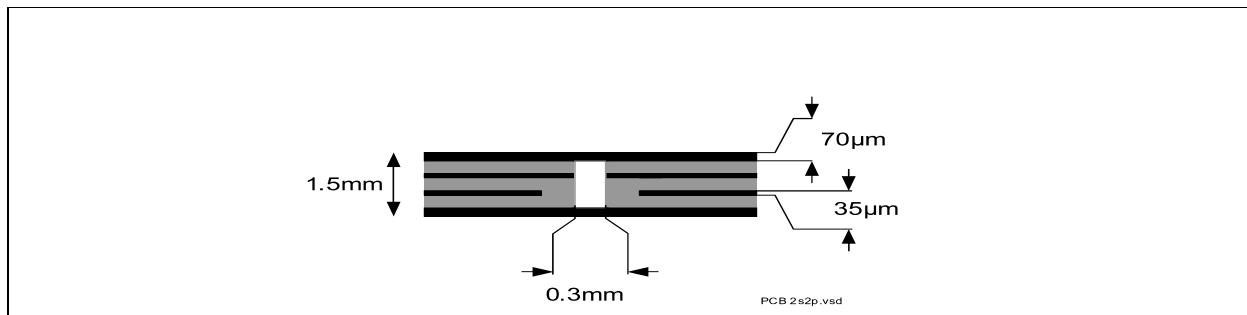

Figure 4 2s2p PCB Cross Section
2) Specified R_{thja} value is according to JEDEC JESD51-2,-5,-7 at natural convection on FR4 2s2p board; The product (chip + package) was simulated on a 76.4 x 114.3 x 1.5 mm board with 2 inner copper layers (2 x 70µm Cu, 2 x 35µm Cu). Where applicable, a thermal via array under the exposed pad contacts the first inner copper layer. Please refer to Figure 4.